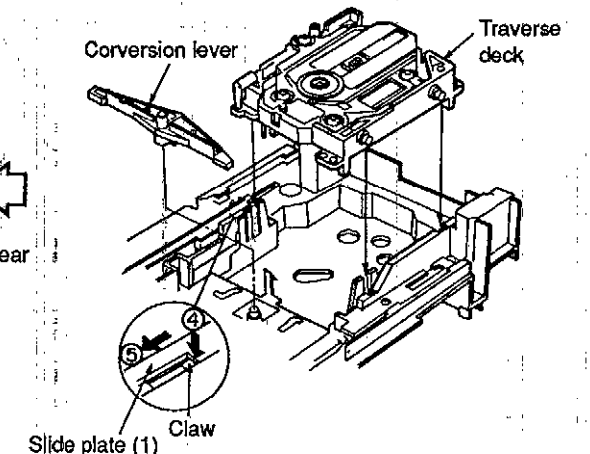

Fig.9
15. Press the claw in the direction of arrow ④ and then slide the slide plate (1) in the loading unit in the direction of ⑤. (See Fig.9.)
16. Install the traverse deck and the conversion lever. (See Fig.9.)